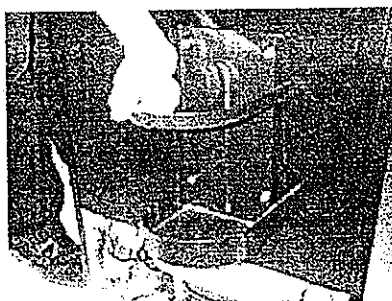

Fig. 1
- Install the metal support provided onto the 4 studs located on the exterior back wall. Align the holes in the support with the studs and push down firmly. (See Figure 1)